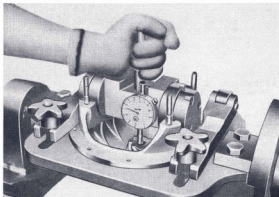

Fig. 9 Adjustment of pinion height
The drive pinion bearing outer race replacer as illustrated in Fig. 9 should be employed in this case. In other upon the stud so as to make the screw at the center of carrier, and set the adapter at the lower frim of the race.
- (13) To pull out the front bearing outer race from the gear carrier, set the tool body (3) as illustrated in Fig. 9 pull it out with adapter (B) in the way of rear race.
The construction and mechanism must well be comprehended referring to Fig. 9 & 11 and the adjustment & repairing exactly according to the condition of practical use based on the adjustment by exact calculation.
- (2) There are few numbers with 0 & + or - besides set number marked by an electric pen on the tip head surface of drive pinion. They show the manufacturing variation in a figure at the unit of 0.001 in. (0.025mm) to decide the thickness of adjusting shim for adjustment of standard position (The standard pinion height is 51.0mm from axle center as shown in Fig. 9 & 11).
There is a marked numeral of adjusting basis on the bearing housing of the gear carrier and differential case. The numeral is the manufacturing variation in a unit of 1/1000 in., against each standard measurement of A, B, C, D, in Fig. 9. To measure the width of the side bearing on left and right, use the standard gauge (20.0mm thickness) and dial gauge on a flat board. In this case, place the load on the bearing with the aid of weight block for about 2.5 kg to acquire the steady figures. Calculate the manufacturing variation on minus side against the each standard measurement of 20.0mm on the unit basis of 1/1000 and assume each of them as E & F. Take the left side bearing, for example. When the measured width is 19.8 mm, it is -0.2mm. (-0.008 in.) against the standard measurement and the E is, by excluding the minus sign, 0.008in. The thickness of the shim is acquired by applying the numerals to the following method of computation.